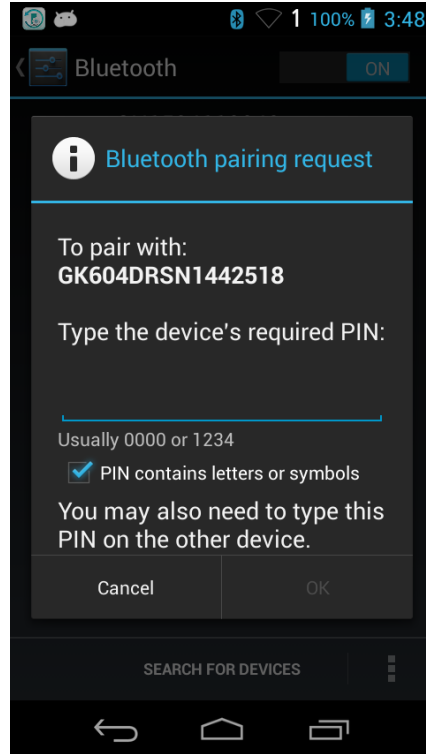
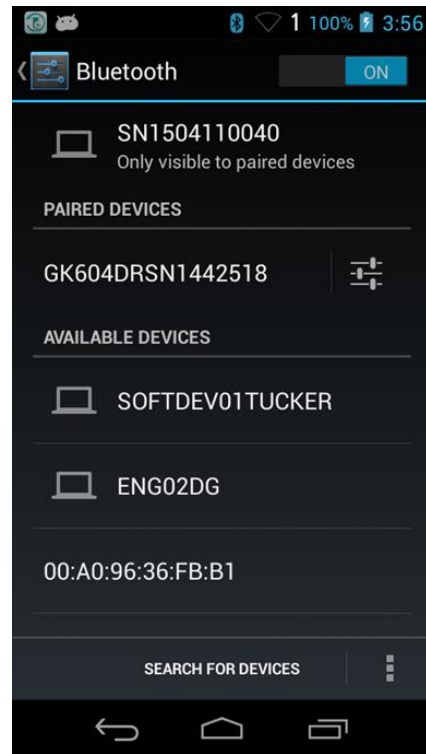

Figure 13 - Bluetooth Pairing Request Screen
Figure 14 - Paired Devices
3. Geokon Remote Modules typically have device names that start with "GK604DRSN" followed by the serial number of the reel. As shown in Figure 12 there is an available device called "GK604DRSN1442518". Tap on the device to begin the pairing process (see Figure 13). Where requested, enter the PIN "default" and tap "OK". If the device pairing is successful then the new paired device will be displayed under "Paired Devices" in the Bluetooth setting screen as shown in Figure 14.